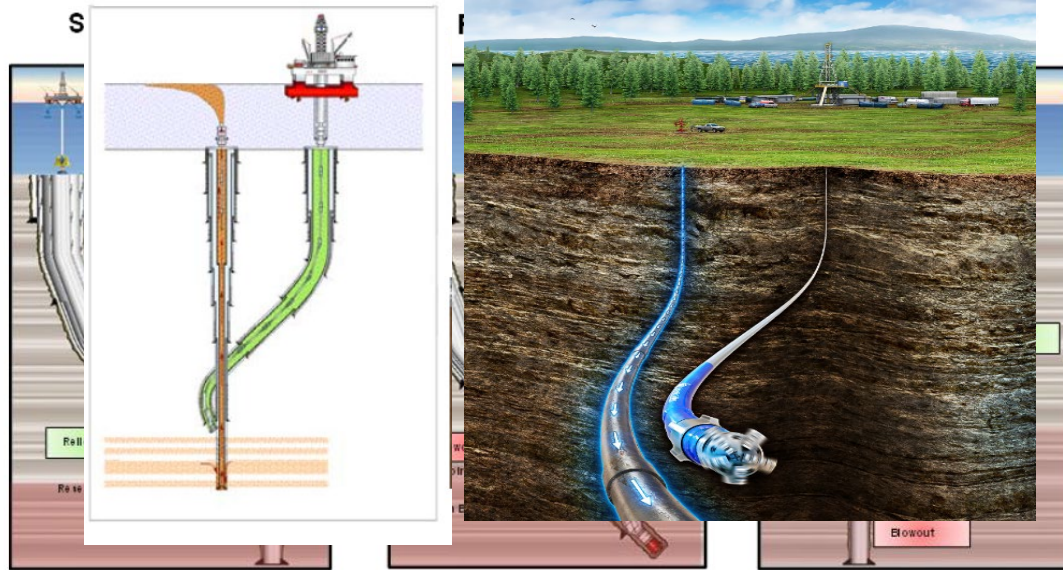

Figure 49—Various examples of relief well designs
6. Figure 49 is somewhat unclear. It may be worth recreating the image so that the text elements are legible. **Re-drawn ?**